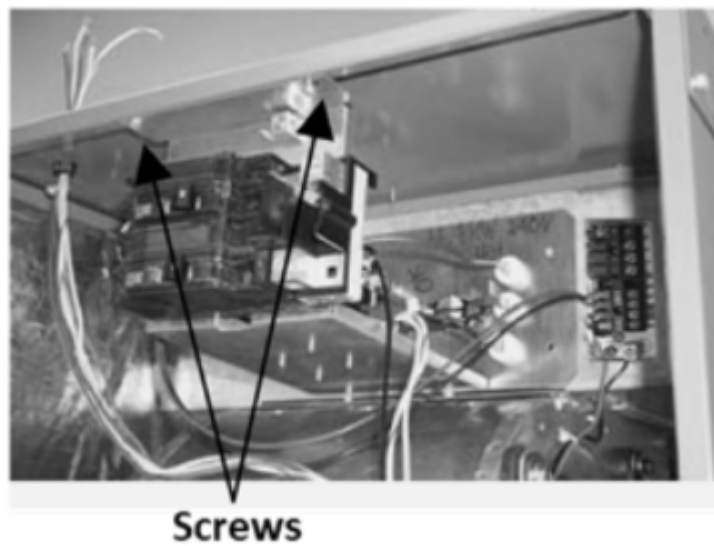

Figure 3
4. Mount the heater kit through the opening with 4 screws retained in step 3. If needed, use the two screws provided in the kit bag to mount the top flange of the heater kit to the top of the unit. (Fig 3)